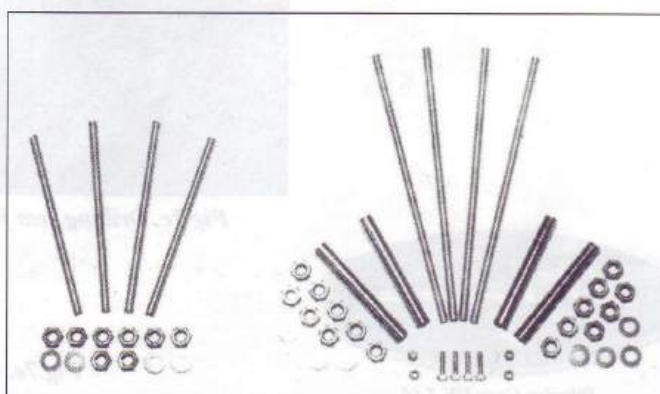

Fig.8f. Front and rear fixing kit
Front Fixing. Our fixing kit includes studding, chrome tubes, nuts and washers (see fig.8f below).
3. The nudge bar is fitted to each front override by drilling two holes in the side of each override and securing them with M8 bolts as shown in fig.8f. Make sure you have the nudge bar the right way round. Overrides must be vertical and the same angle as the nudge bar.